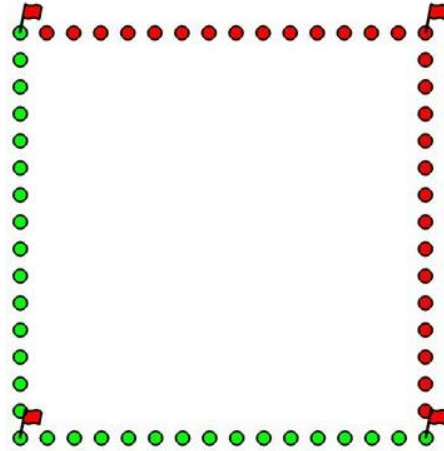

Figure 7-6: Marking ending positions
Step 4 – Mark the End Positions – if you are doing a forward only grid, it is recommended to mark the end positions (Figure 7-6). You will need to aim for something to make sure your line is straight.